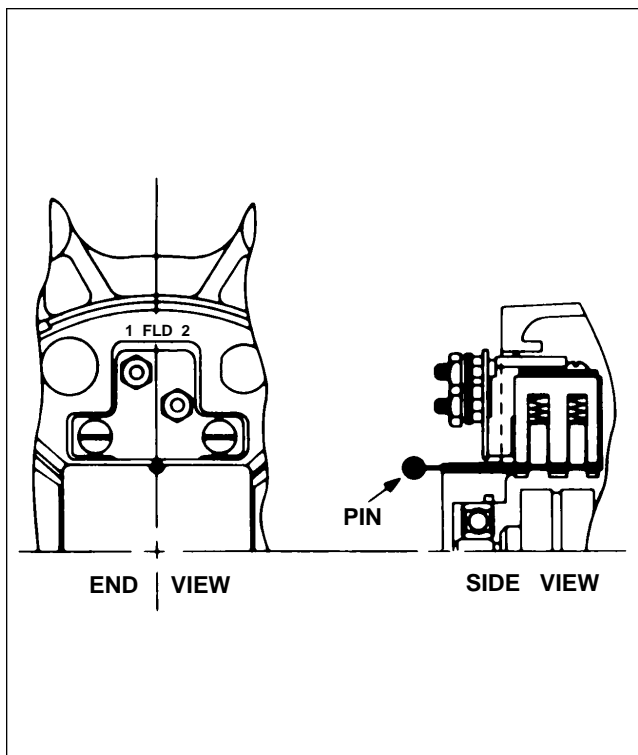

Figure 11-14. Brush Installation
c. Brushes: These units have a separate brush holder assembly that is installed after the alternator has been assembled. The brush holder has a small hole that intersects the brush cavities. Use a pin or wire, as in figure 11-14 to hold brushes in holder during assembly. Remove pin after brush holder retaining screws are tightened. Make a continuity check to be sure brushes are seated against slip rings.